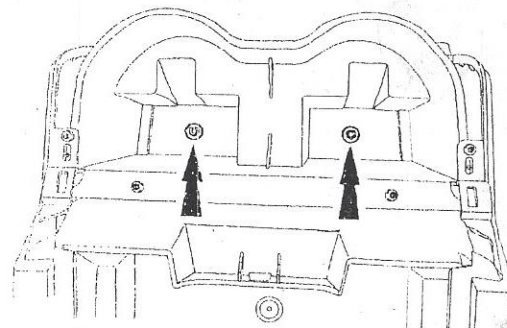

FIGURE 4
6. Remove the 2 floor console front bolts (Figure 4).